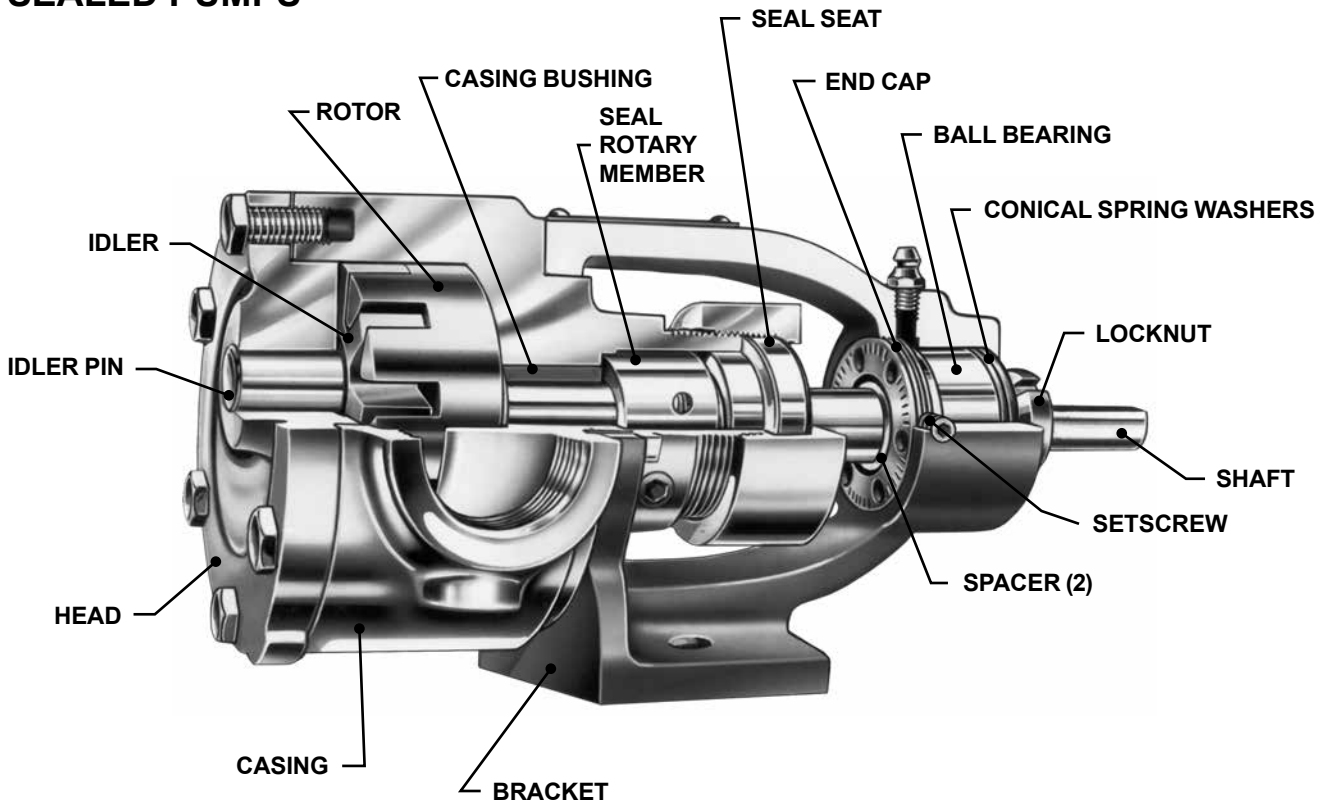

FIGURE 2
4. Relief valve adjusting screw cap must **always** point towards suction side of pump. If pump rotation is reversed, remove pressure relief valve and turn end for end. **Refer to Figure 1, page 1 and Figures 2 and 3, page 3.**
1. **CAUTION:** When the head is being removed from the pump (See Figure 2), the idler usually stays on the idler pin, but will fall off if the inside of the head is tilted downward. A fall on a hard surface can damage the idler. If the idler should fall, check carefully and file or stone all nicked or rough places before reassembly.